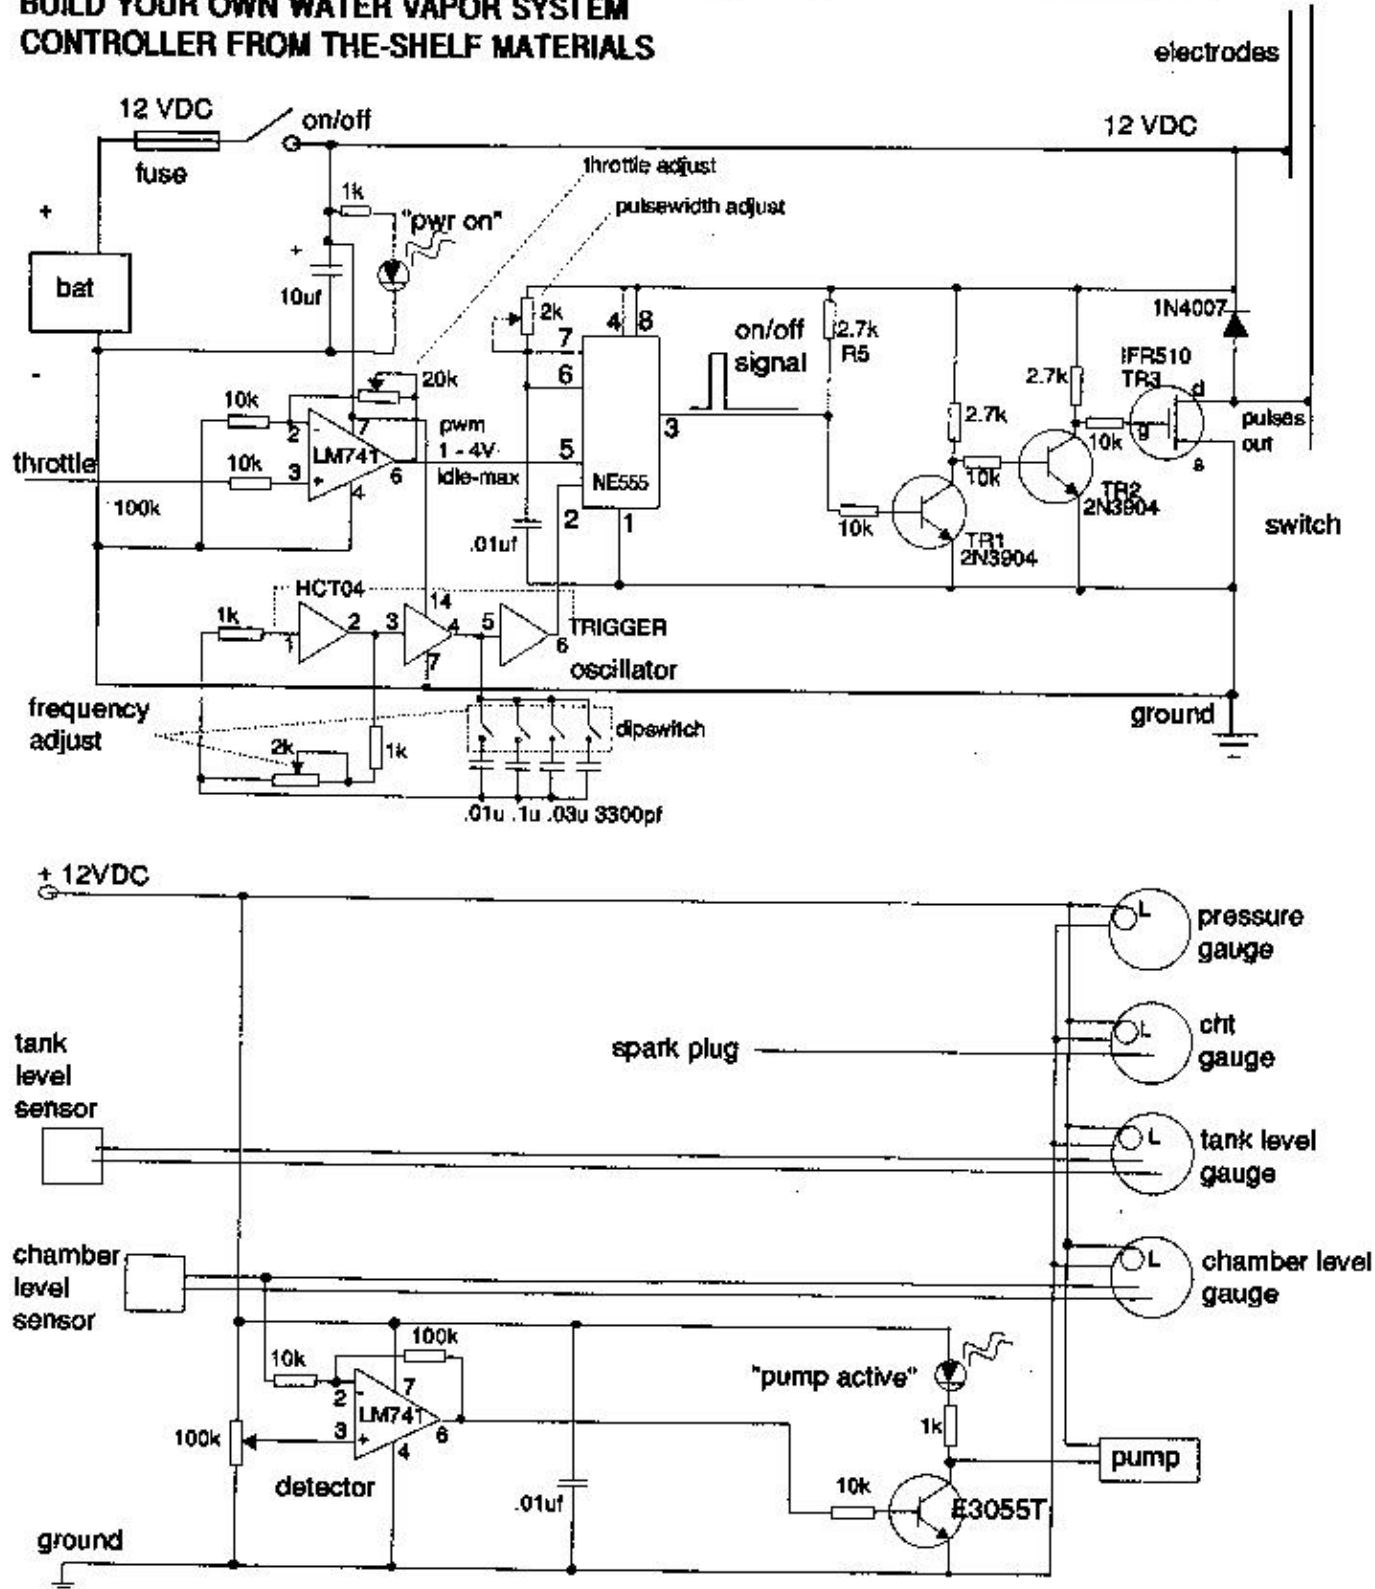

FIGURE 4 E-SCHEMATIC
NOTE : Figures 4 and 5 have been revised, click to see the large version
**There is nothing sacred about how the pulse waveform is generated; there are many ways to generate pulses, and the attached diagrams show a few. Figure 4 gives the NE555-circuit approach from the referenced patent. The output switching transistor must be rated for**